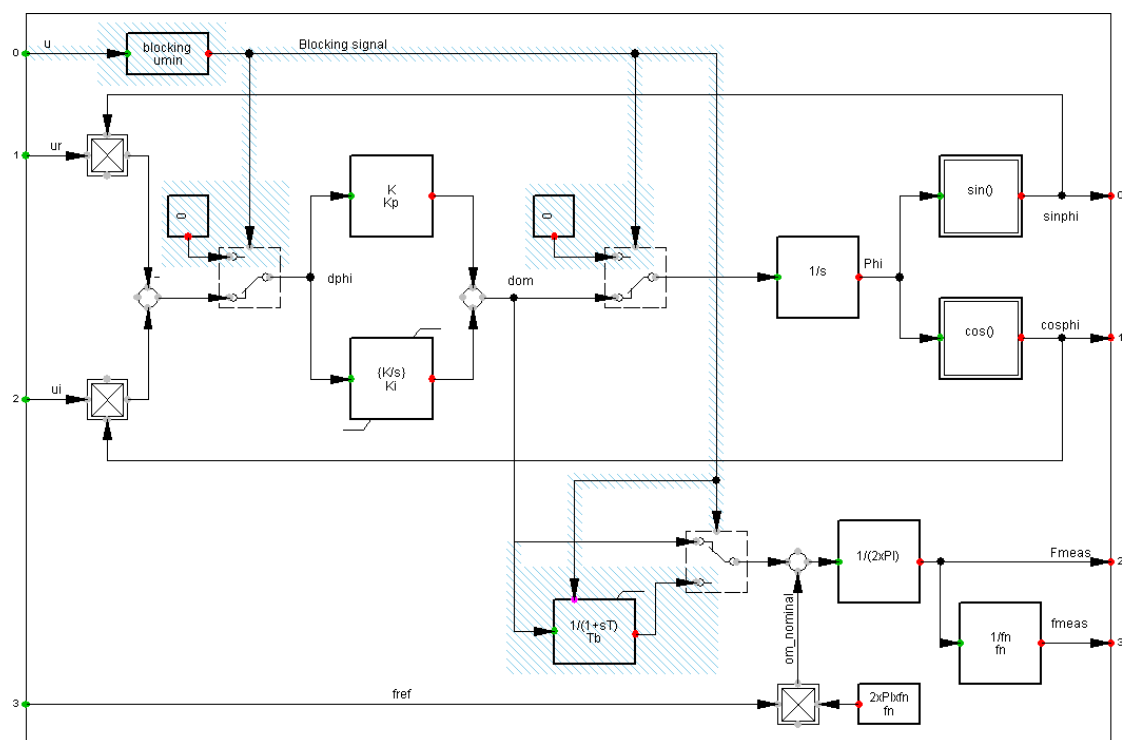

Figure 2.1: DlgSILENT PLL block diagram Version 2 (RMS simulation)
The block diagram of the PLL version 2 is presented in Figure 2.1 where the following input parameters are used (connected automatically):
- $dphi$  is the dphi signal (see Figure 2.1).
In real devices, the angle cannot be tracked if the voltage falls below a certain threshold. The option *Enable Blocking* can be used to simulate this. When this option is enabled, the blue colour shaded blocks in Figure 2.1 are considered in the calculation.
The block diagram of the single-phase PLL is equal to the three-phase PLL diagram (presented in Figure 2.1).